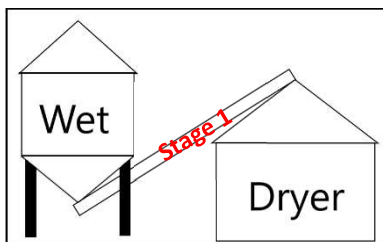

Figure 39
- Stage 1 is loading system closest to the dryer, stage 2 is second loading system from the dryer and stage 3 is third. Ex. (Figure 39, 40, 41)